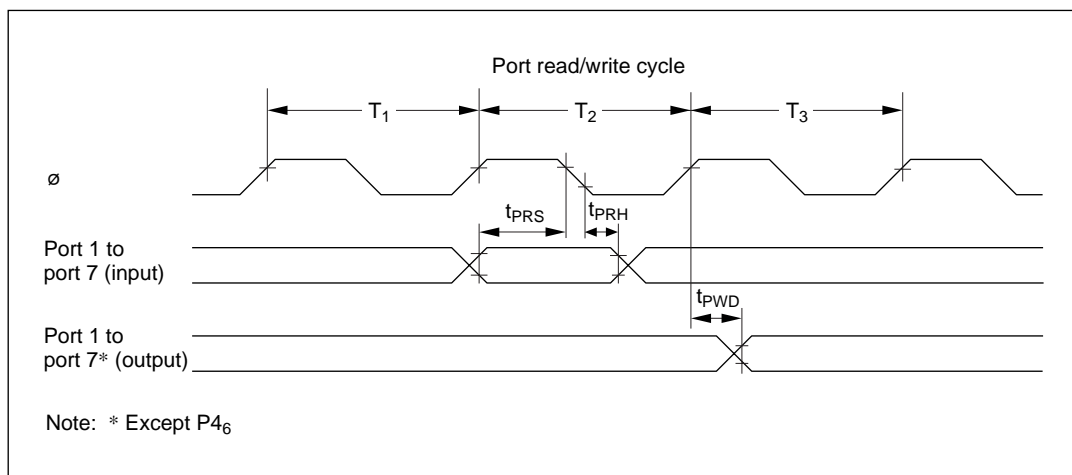

Figure 16-17 I/O Port Input/Output Timing
16.3.6 I/O Port Timing	Figure 16-17